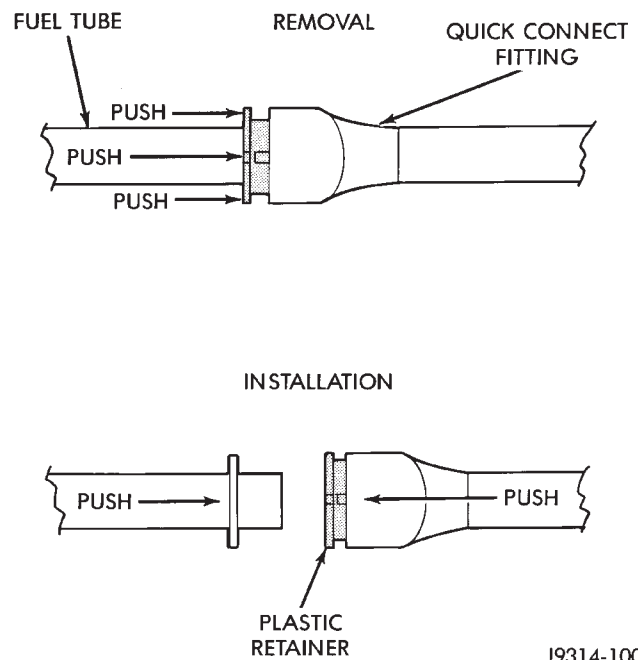

Fig. 19 Plastic Retainer Ring Type Fitting
This type of fitting can be identified by the use of a full-round plastic retainer ring (Fig. 19) usually black in color.
- (1) Perform fuel pressure release procedure. Refer to Fuel Pressure Release Procedure in this section.
- (2) Disconnect negative battery cable from battery.
- (3) Clean fitting of any foreign material before disassembly.
(4) To release fuel system component from quick-connect fitting, firmly push fitting towards component being serviced while firmly pushing plastic retainer ring into fitting (Fig. 19). With plastic ring depressed, pull fitting from component. **The plastic retainer ring must be pressed squarely into fitting body. If this retainer is cocked during removal, it may be difficult to disconnect fitting. Use an open-end wrench on shoulder of plastic retainer ring to aid in disconnection.**
(5) After disconnection, plastic retainer ring will remain with quick-connect fitting connector body.
(6) Inspect fitting connector body, plastic retainer ring and fuel system component for damage. Replace as necessary.
(7) Prior to connecting quick-connect fitting to component being serviced, check condition of fitting and component. Clean parts with a lint-free cloth. Lubricate with clean engine oil.
(8) Insert quick-connect fitting into component being serviced until a click is felt.
(9) Verify a locked condition by firmly pulling on fuel tube and fitting (15-30 lbs.).